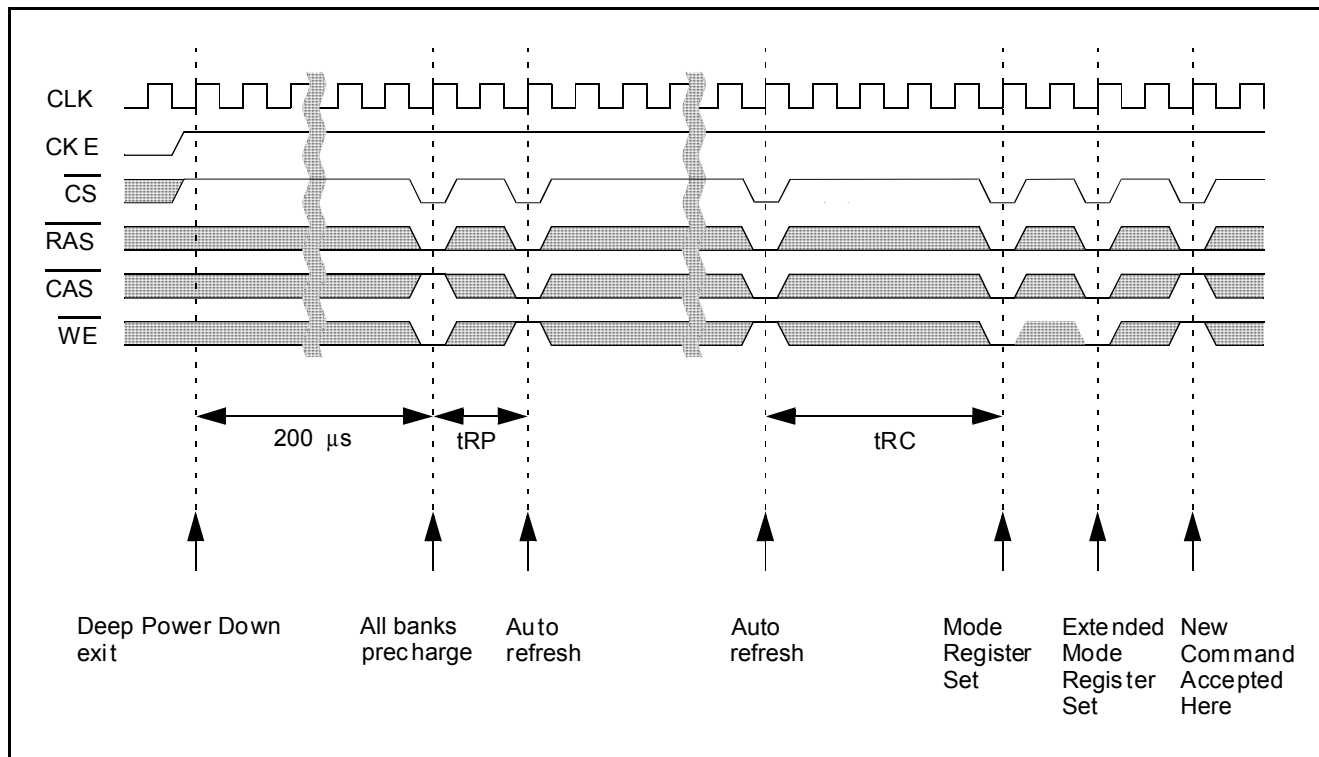

Figure 37 Deep Power Down Exit
- **Figure 37** Deep Power Down Mode Exit